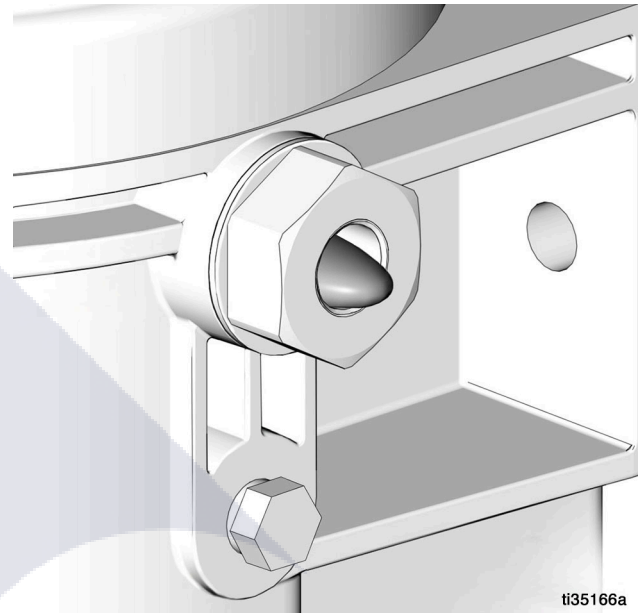

FIG. 22
2. Only run the pump until air is no longer dispensed with the lubricant out of element fitting (FIG. 22).